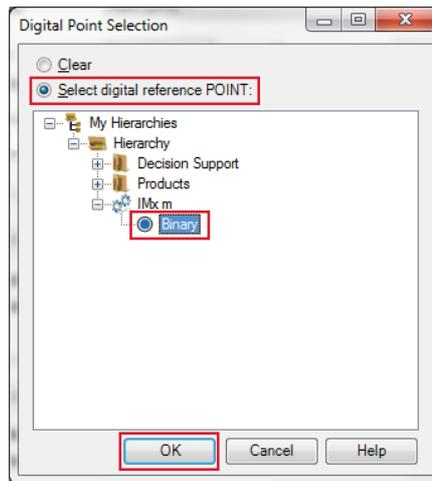

Fig. 11. Choose the binary point.
- Choose the binary point and click **OK** (→ fig. 11).